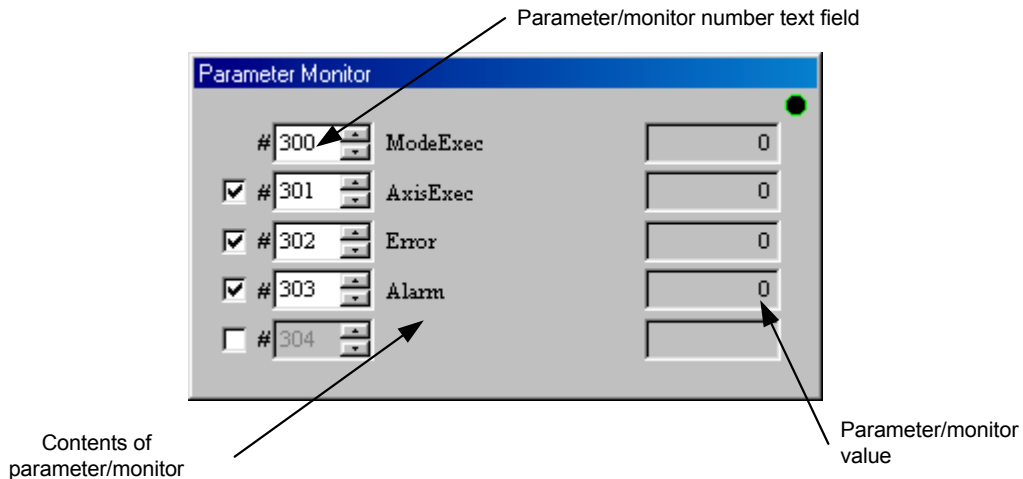

Figure 8.10 “Parameter Monitor” dialog box
(1) Parameter/monitor
In the “Terminal” menu, click “*Parameter/Monitor (M)*” under “Monitor” to display the “Parameter/Monitor” dialog box (see Figure 8.10).